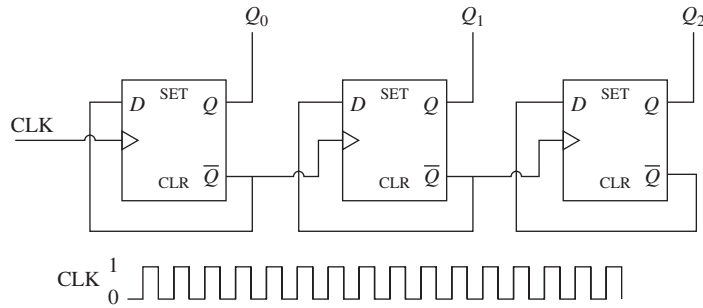

FIGURE P10.67 Counter and its input.
10.67 (H) A counter constructed with D flip-flops is shown in Figure P10.67. Assume that each D flip-flop's initial output is 0. Draw its output wave form.